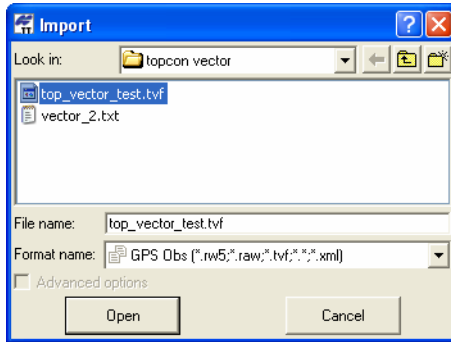

Figure 3-14. Import GPS Obs File
4. Click **Open** to import the file (Figure 3-14).